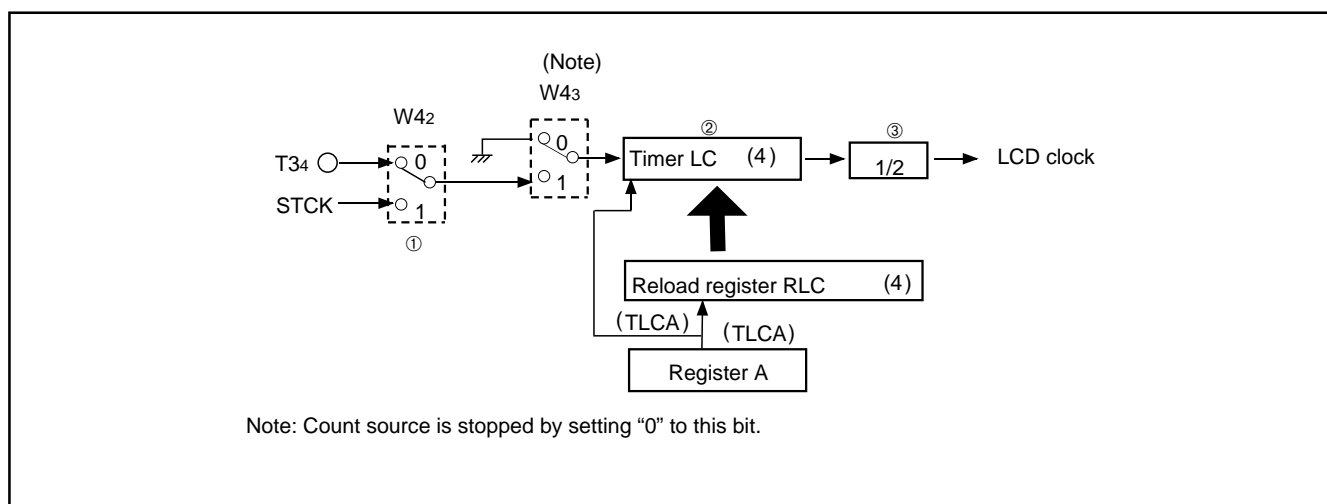

Fig. 30 LCD clock control circuit structure
(2) LCD clock control
The LCD clock is determined by the timer LC count source selection bit (W42), timer LC control bit (W43), and timer LC. Accordingly, the frequency (F) of the LCD clock is obtained by the following formula. Numbers ① to ③ shown below the formula correspond to numbers in Figure 30, respectively.